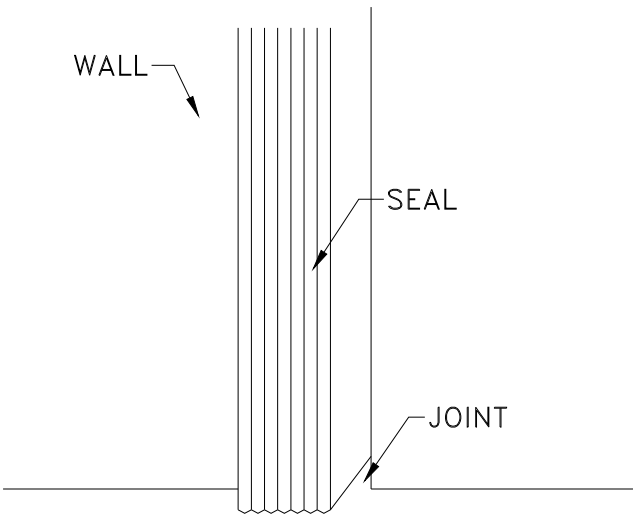

Figure 5
STEP 5. Beginning at the bottom of the joint, insert the seal into the joint gap, pressing it to one side of the joint using either a clean putty knife or by hand (see Figure 5).